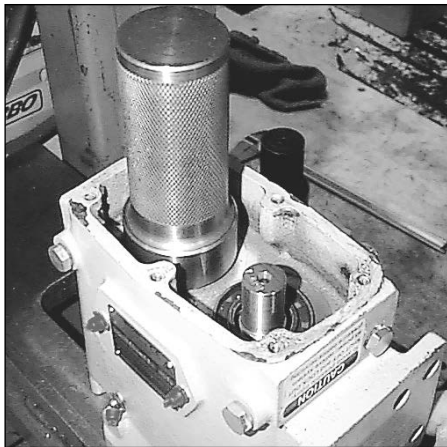

Figure 56 - Press seals into place
4. Press the seals into place. See Figure 56.